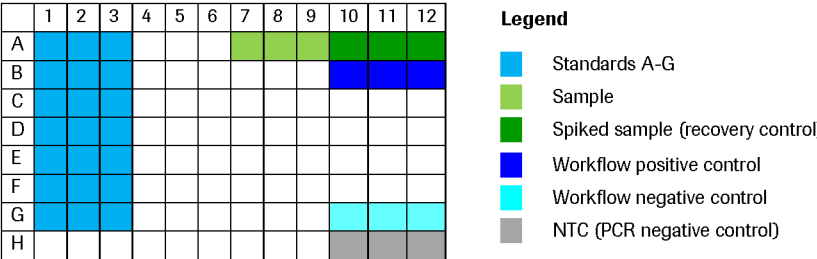

Fig. 2: Plate configuration proposal for one sample.
Figure 2 illustrates an example of a plate setup for only one sample, including all standards and controls. For accurate quantitative results, run triplicates for each PCR. Always run negative controls (NTC). To prepare a negative control (NTC), replace the template DNA with PCR Negative Control (Vial 7).
- ③ Keep Vial 6 away from light. Do not touch the surface of the LightCycler® 480 Multiwell Plate during handling.
- ① Perform laminar flow hood cleaning (using bleach, then ethanol or other disinfectant reagents) in the master mix room.
- ② Wipe pipetting tools with 10% bleach followed by 70% ethanol or other disinfectants. Wipe all other items with 70% ethanol before bringing into the hood.
- ③ Place the reagents (see Step 6) in a laminar flow hood, and let them thaw at room temperature (+15 to +25°C).
- ④ Vortex and spin down briefly before opening.
- ⑤ Change tip after each pipetting step.
- ⑥ For the plate setup (Figure 2), prepare the master mix for 38 PCR reactions according to the table below. Use nuclease-free, DNA-free vials.